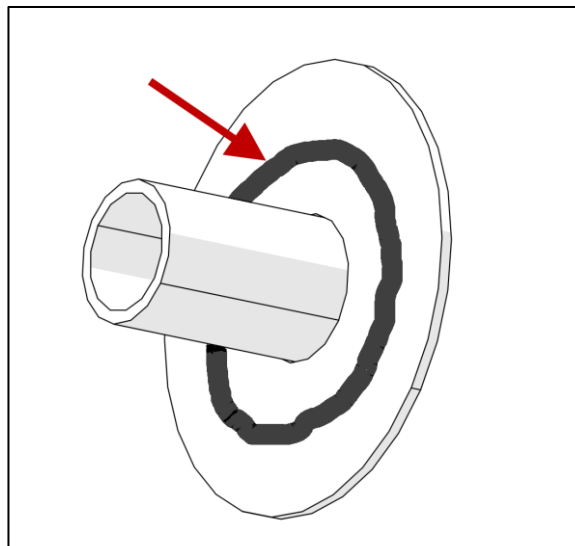

FIGURE 19
27. Apply a glue bead (4 to 5mm diameter) on the flange and all around the longer tube. Use glue #684743 or equivalent and the mixer #680808 (Figure 19).